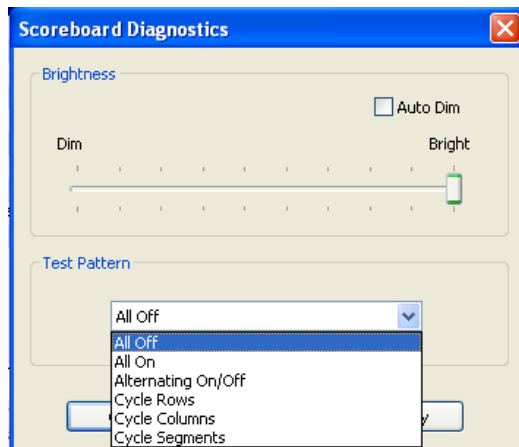

Figure 4
- Click the fourth button for scoreboard brightness and diagnostics (*Figure 4*).